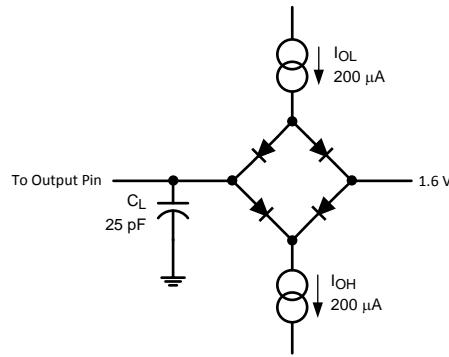

Figure 3. Timing Test Circuit
(1) Measured with the timing test circuit shown in Figure 3 and defined as the time taken by the output signal to cross $1.0V$.
(2) Measured with the timing test circuit shown in Figure 3 and defined as the time taken by the output signal to cross $1.0V$ or $2.0V$.
(3) t_{DIS} is derived from the time taken by the outputs to change by $0.5V$ with the timing test circuit shown in Figure 3. The measured number is then adjusted to remove the effects of charging or discharging the output capacitance. This means that t_{DIS} is the true bus relinquish time, independent of the bus loading.